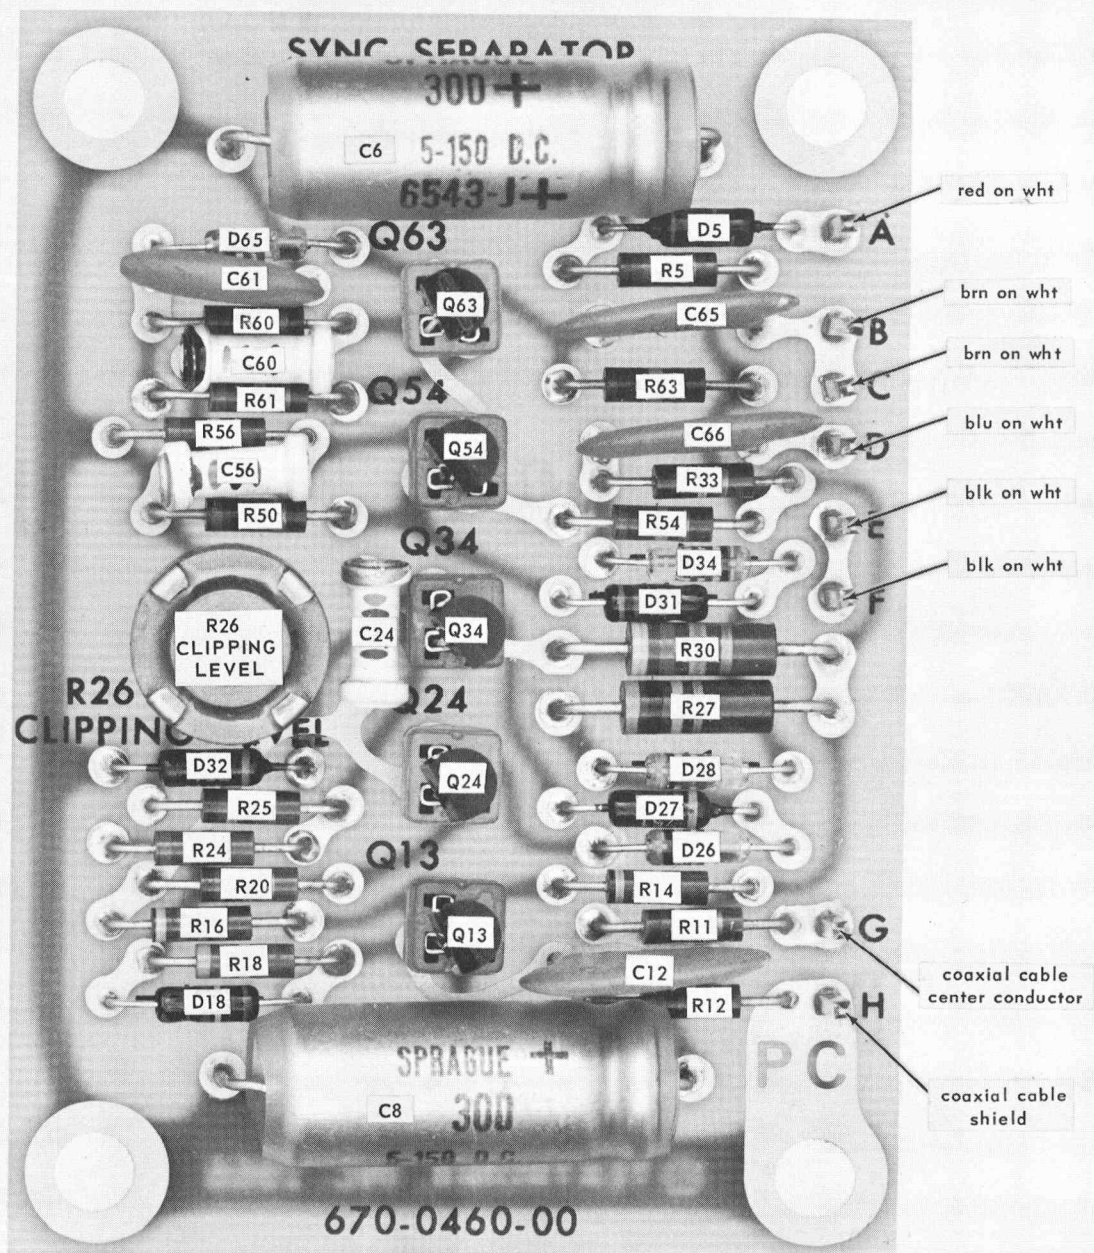

Fig. 4-1. Component locations on circuit board.
- To reassemble the TV Sync Separator, reverse the above procedure. Fig. 4-1 shows the wire connections to the circuit board.
Transistor Replacement. Transistors should not be replaced unless they are actually defective. Transistor defects usually take the form of the transistor opening, shorting, or developing excessive leakage. To check a transistor for these and other defects, use a transistor curve display instrument such as a Tektronix Type 575. However, if a good transistor checker is not available, a defective transistor can be found by measuring the transistor forward-to-back resistance using proper ohmmeter resistances, or by using the substitution method. A component location guide is given in Fig. 4-1.